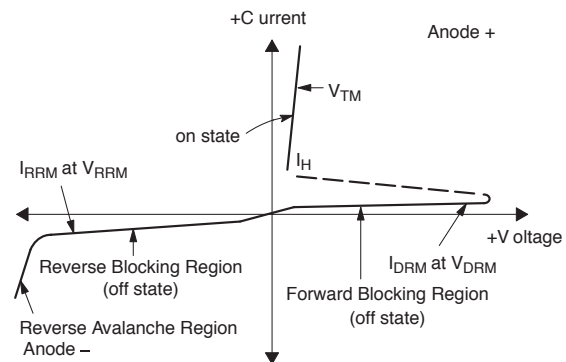

Figure 1. Current Derating
- Ratings apply for $t_w = 1$ ms. See Figure 1 for I_{TM} capability for various duration of an exponentially decaying current waveform, t_w is defined as 5 time constants of an exponentially decaying current pulse.
4. Ratings apply for $tw = 1\text{ ms}$. See Figure 1 for I_{TM} capability for various durations of an exponentially decaying current waveform. tw is defined as 5 time constants of an exponentially decaying current pulse.